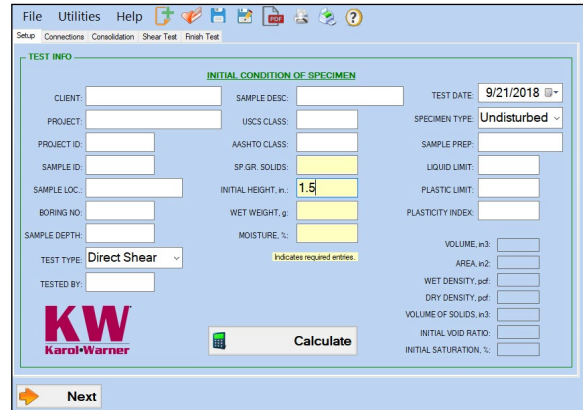

Figure 6: Setup Tab
2. In the **Setup** tab (Figure 6) enter project and sample information. Yellow boxes indicate required entries to complete testing.